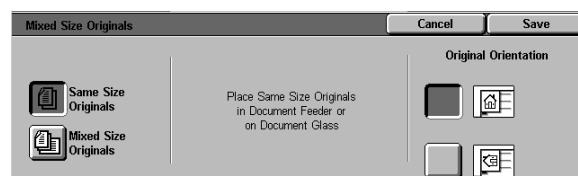

Figure 35: Mixed Size Originals screen with Same Size option selected
- Touch the **Same Size** option when the original documents are all the same size, as illustrated in Figure 35.